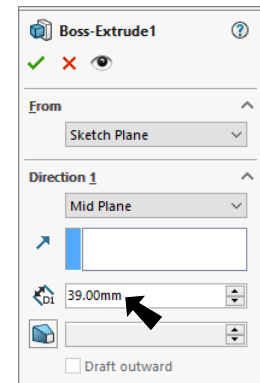

Fig. 14
Step 2. In the Property Manager set: under Direction 1, Fig. 14